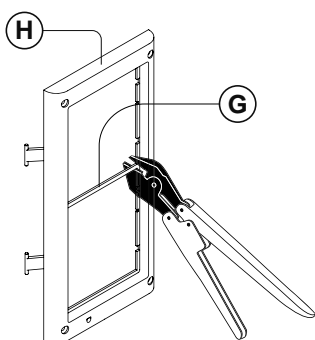
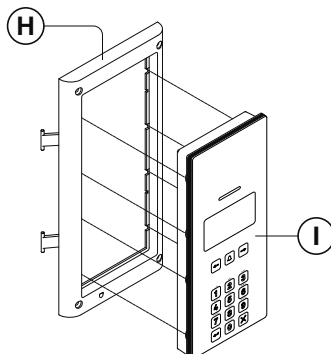
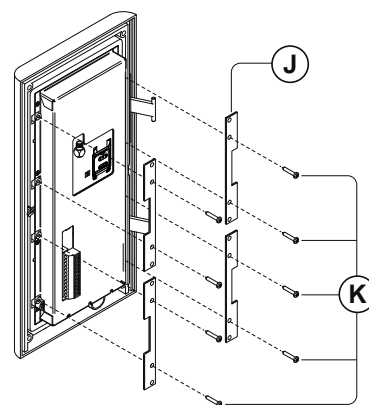

Fig. 37
Fig. 38
Fig. 39
3. Remove the cross bar **(G)** from the module support frame **(H)** using the appropriate hand tool (where required it may be necessary to wear the appropriate clothing, e.g. protective gloves and eye protection, when doing this) as shown in **Fig.37**;
4. Before installation of the module support frame **(H)** to the surface box **(C)** , fit the module **(I)** to the support frame **(H)** as shown in **Fig. 38** then, as shown in **Fig.39**, fit the module fixing brackets **(J)** using the fixing screws **(K)** ;
4. Follow steps 3 and 4, from 'installing a surface mounting door station', to fit the module into the module support frame (H) as shown in **Fig.37, Fig.38** and **Fig.39** (on pages 22 and 23);